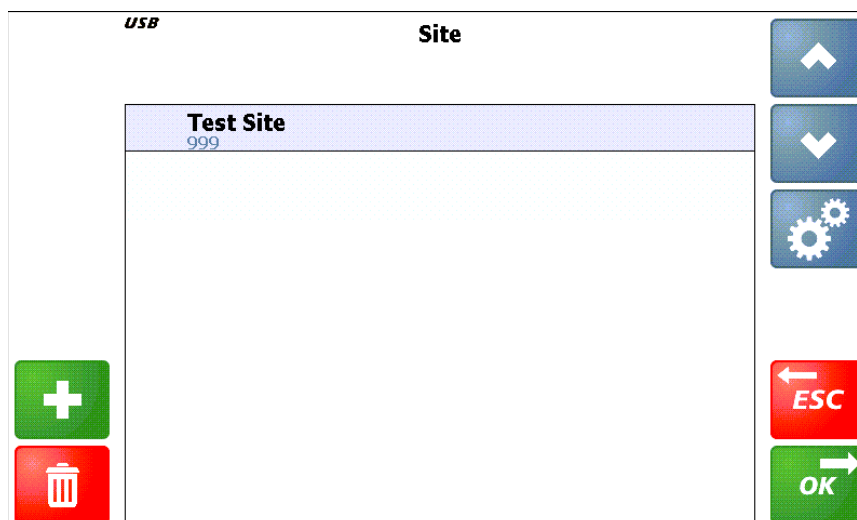

Figure 2-30: Load Weighing Display Site
6. Select **OK** to open the **Site** screen (Figure 2-30 on page 2-21).